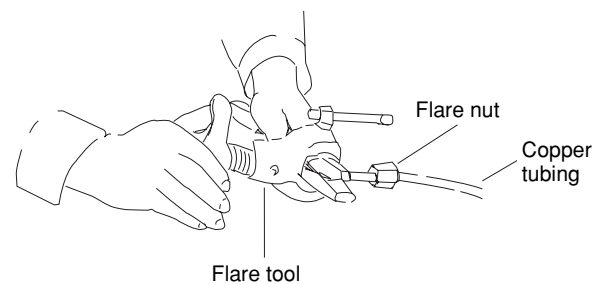

Fig. 5-3
- (3) Remove the flare nut from the unit and be sure to mount it on the copper tube.
- (4) Make a flare at the end of copper tube with a flare tool. (Fig. 5-3)